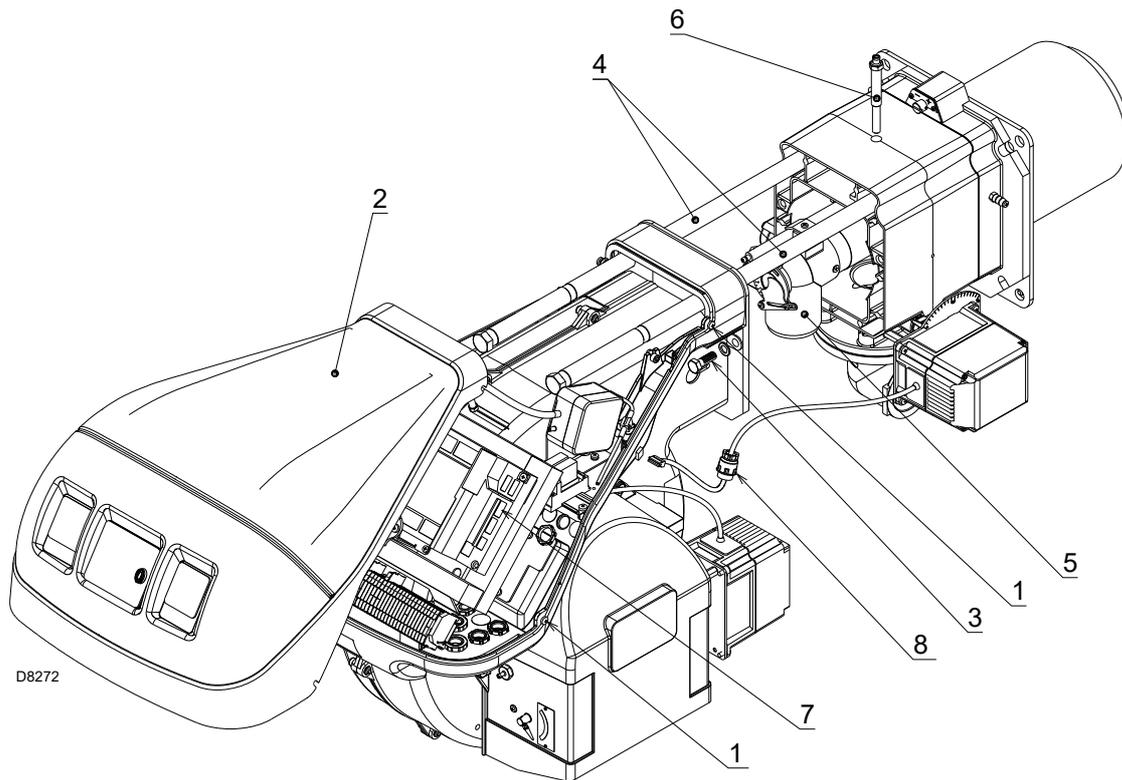

Fig. 40
Make sure that the gas outlet holes for the start-up, on the combustion head distributor, are free of dirt or rust deposits. If in doubt, disassemble the elbow (Fig. 40 at page 58).
- Loosen the 4 screws 1)(Fig. 40) and remove the hood 2).
- Connect the plug of the servomotor 7)(Fig. 40) and tighten the grommet 8).